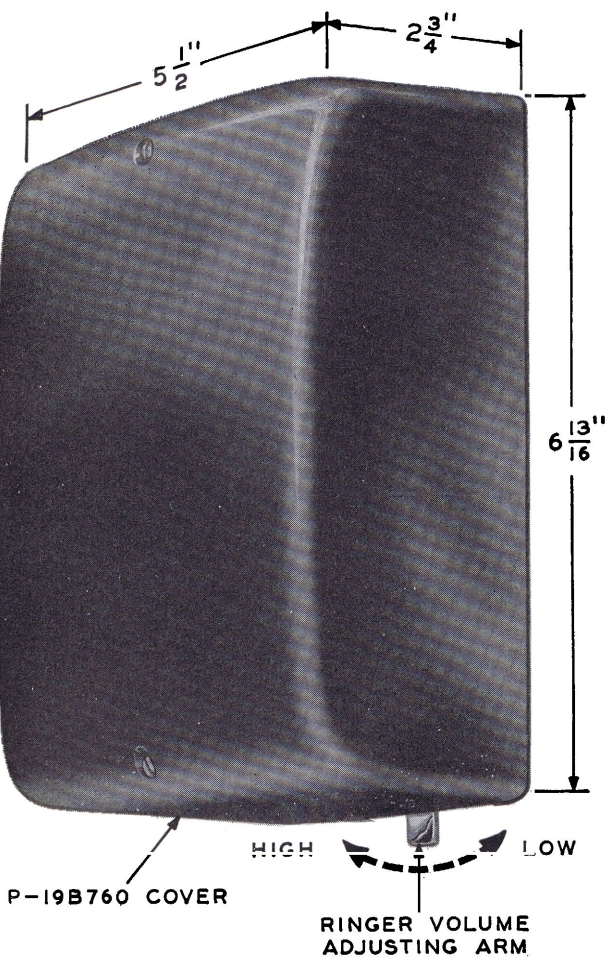

Fig. 1—685-, 686-, and 687-type Subscriber Sets—
2.01 Figs. 1 through 6 illustrate the 685A, 686A, 687A, and 687B subscriber sets.